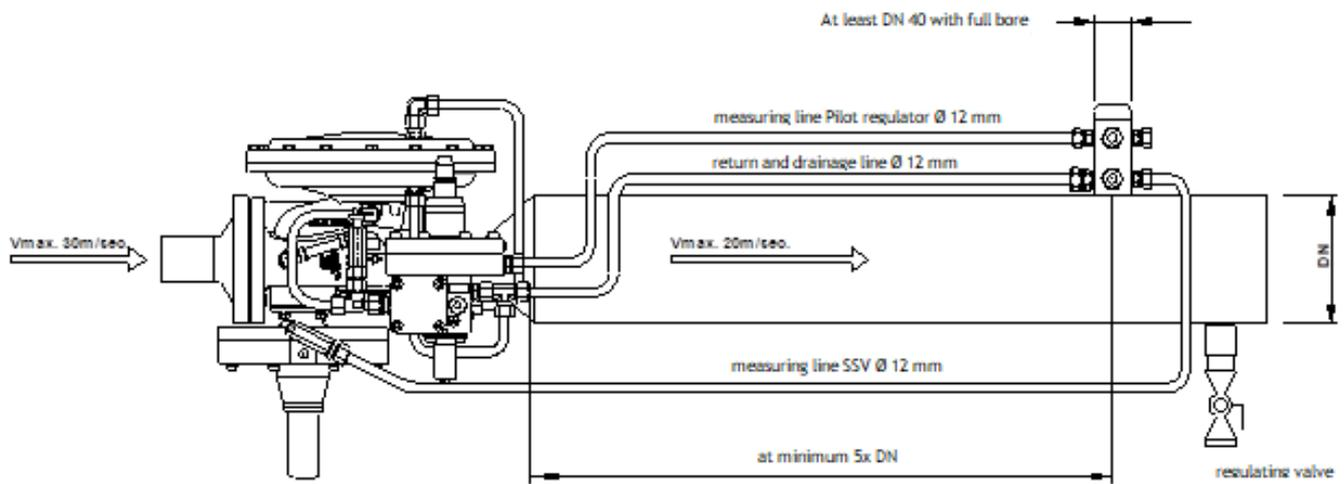
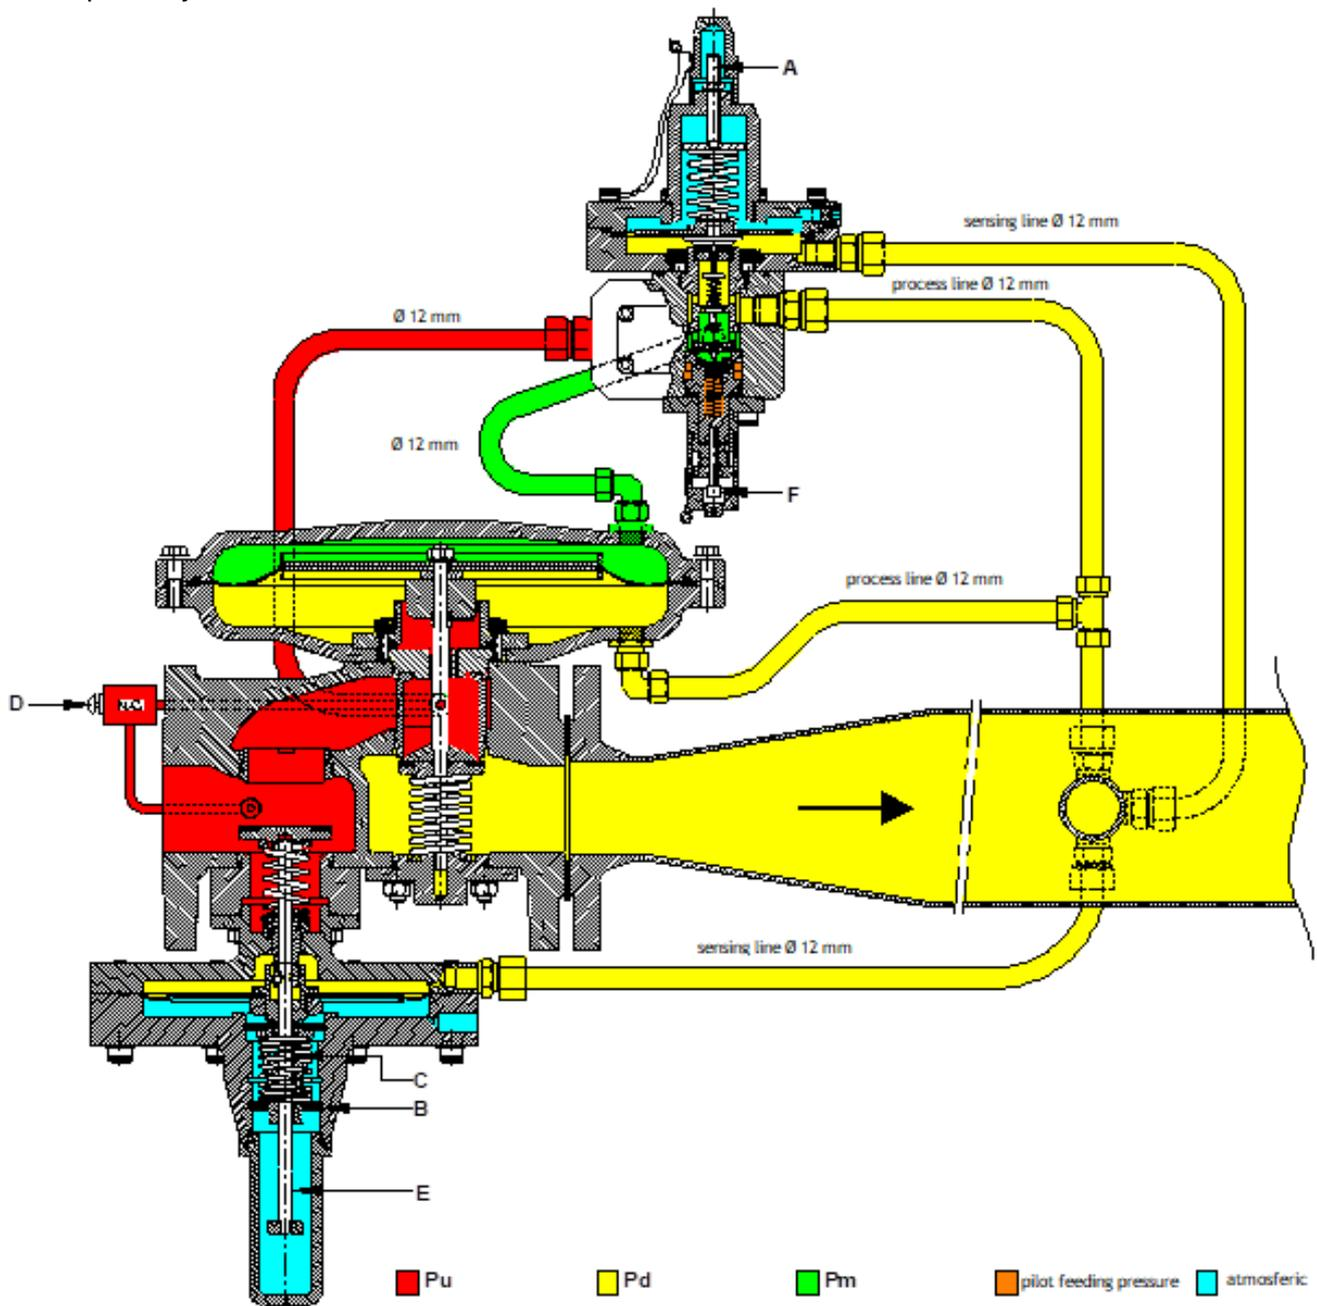

Figure 1
Figure 2
Air vents marked "P atmospheric breather" should always be horizontal or face downwards to prevent the ingress of dirt and moisture. The RS350S piping should be connected to a central pressure gauge as shown in Figure 1. The piping should be arranged so that any condensate cannot flow into the controller. Obstacles in the discharge pipework positioned near the controller can affect the controller's behaviour. See NEN1059 for measurement point regulations.
If the inlet pressure P_u is present (increase the pressure slowly), the pressure difference over the safety shut-off valve can be slowly released by actuating the pressure equalization valve on the body of the gas pressure regulator (see figure 2, item D). During pressure equalization, P_d will rise to the set value. The safety shut-off valve can then be reset. The gas pressure regulator will deliver when the adjustment valve (see figure 1) is opened.
The schematic cross-sectional area of the gas pressure regulator (figure 2) indicates the positions of the controls by which the gas pressure regulator can be set or operated.
The response value of the minimum pressure protection, if any, is a fixed value (see label). If an existing minimum pressure relief valve is undesirable, it can be deactivated by removing the minimum spring (see C in figure 2). This can be accomplished by fully unscrewing the underlying bushing, removing the spring, and fully turning the bushing back in again.
Adjusting the pilot can be carried out once the regulator has been put into operation (see chapter 3). The pilot of the RS350S has only **one** setting at which the operation is optimal. This setting is within about half a turn of the adjusting device “F” (see figure 2) relative to the zero point at which the pilot regulator is set at the factory. If proper operation is not obtained during the adjustment in this area, this indicates a problem elsewhere in the gas pressure regulator/installation (see chapter 5).
Usually the cause is false flow of the pilot pressure due to a leak in the connecting pipe P_m , but sometimes the cause is increased friction of the bearing in the regulator or pilot regulator. A station configuration that is different from what is prescribed, as shown in figure 1, as well as an obstacle in the vicinity of the output side of the drive can also lead to unstable behavior.
- Pressurize the regulator. Check the pilot feeding pressure when “A” (see figure 2) is screwed in (Pilot delivers pilot pressure), and when “A” is fully screwed out (closing pressure pilot). The measured values shall correspond respectively to 300 mbar ± 50 mbar.